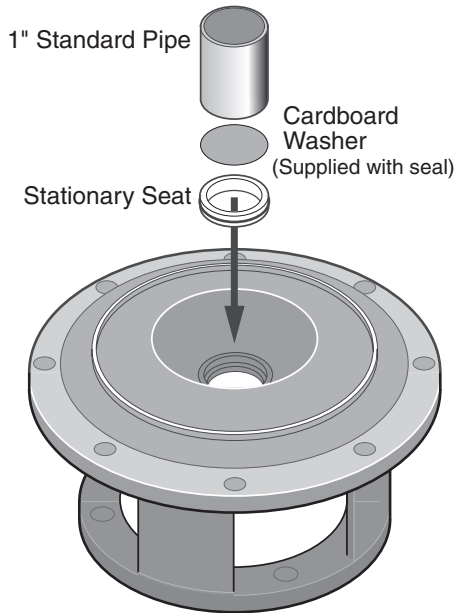

**Figure 5**
9. Place adapter/seal plate face down on bench and drive old stationary half of seal out of adapter/ seal plate by carefully tapping with screwdriver and hammer (Figure 5).